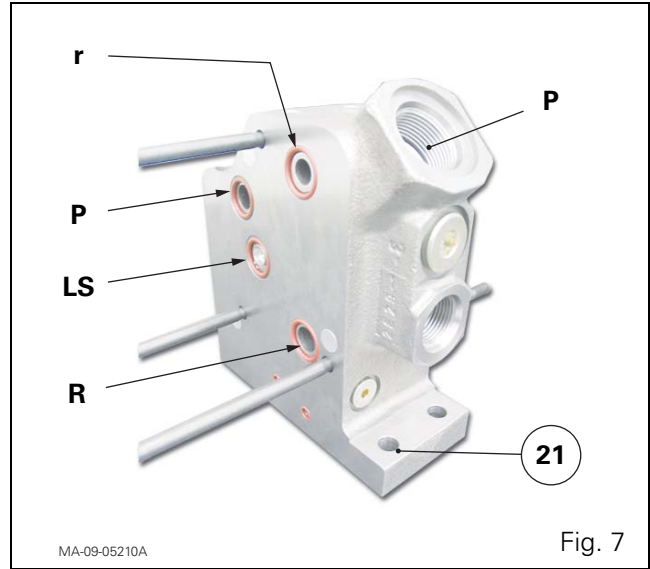

Fig. 7
... on the manifold (21) (Fig. 7)